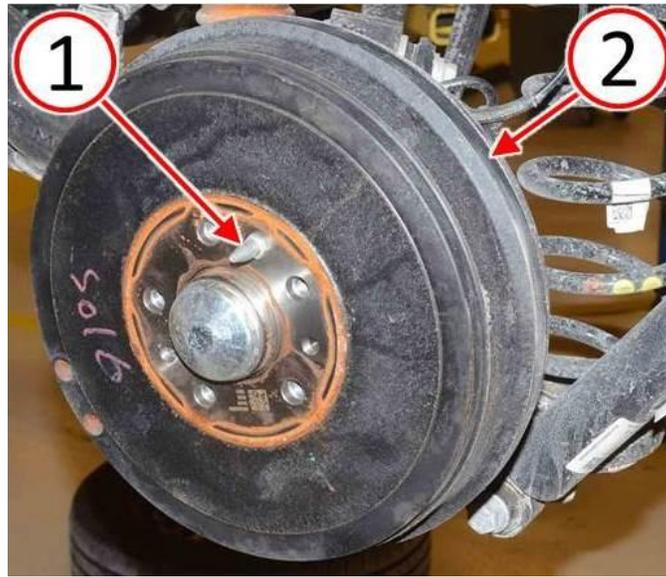

Fig. 9 Install Rear Brake Drums
26. Install the brake drum (2), then install the brake drum retaining pin (1). Tighten the pin to 12.5 N·m (110.6 in. lbs.) (Fig. 9).